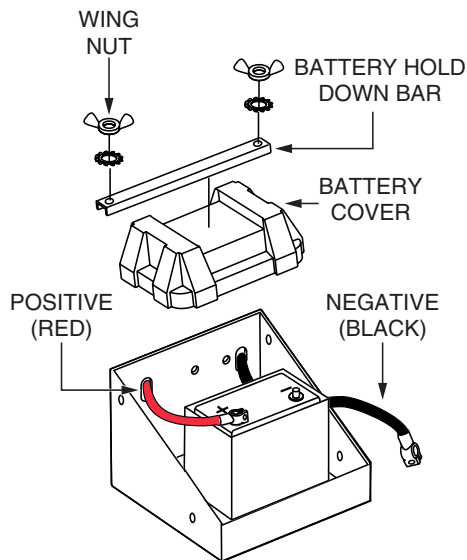

Figure 2. Battery Cover Removal and Cable Disconnection
1. Remove the 2 wing nuts (Figure 2) that secure the battery hold down bar to the battery cover.
1. Disconnect the negative battery cable (BLACK) from the battery post (Figure 2).